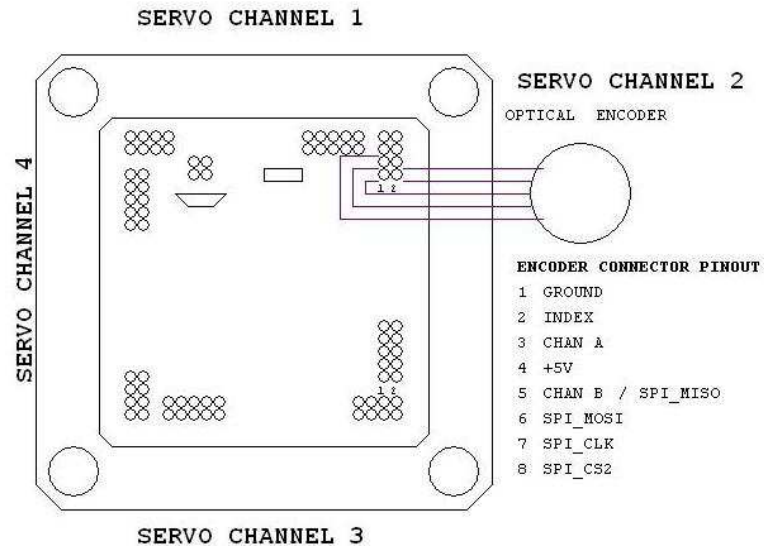

Figure 6 Feedback Encoder Connectors
There are four encoder input connectors, The connectors accept index and AB quadrature pulses, and provide 5V power to the encoders. See Figure 6 below. (Also has optional absolute encoder capability which is not implemented yet)
6. Connect the encoder to the board. Refer to Figure 6 Feedback Encoder Connectors, page 56.